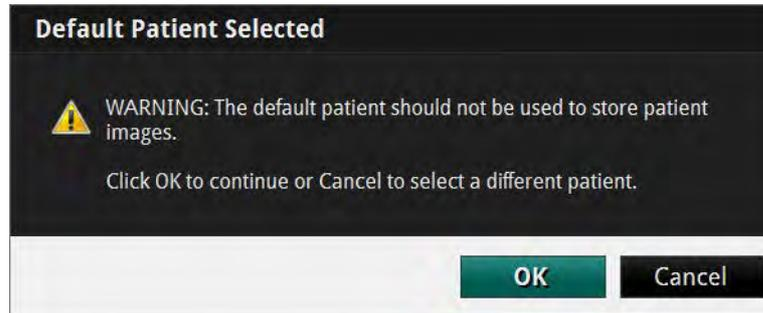

Figure 3-2: Default Patient Alert
**WARNING:** If you select the default patient (“Patient, Default” in the patient list), the system displays an alert (**Figure 3-2**). Do not use the default patient to store patient images. Click OK to continue to use the default patient, or Cancel to return to the Select Patient menu to select another patient.